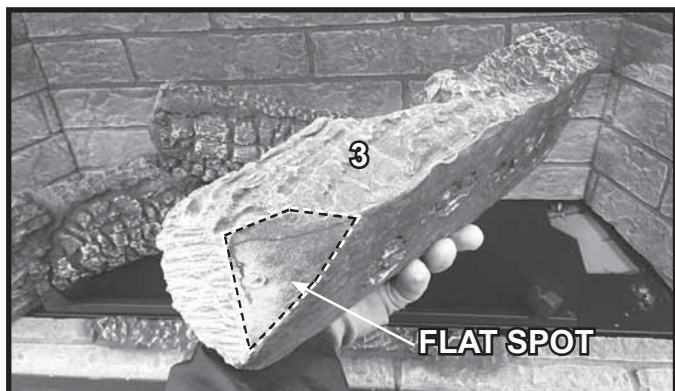

Figure 30. Log #3
**LOG #3:** Place lower right side of log #3 against pin H and burnout end of log #3 on flat spot of log #2. Rotate the log so the flat spot on the back side is flush against the right side refractory. Slide the burnout end of log #3 back until it contacts the back refractory. See Figure 30 & 31.